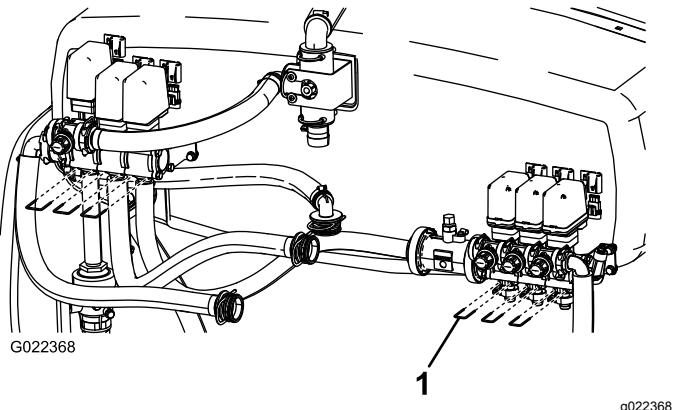

Figure 50
- B. Remove the 3 forks securing the valve seats to the valve assembly (Figure 50).
Note: Make sure to account for the springs in the valve (Figure 50).